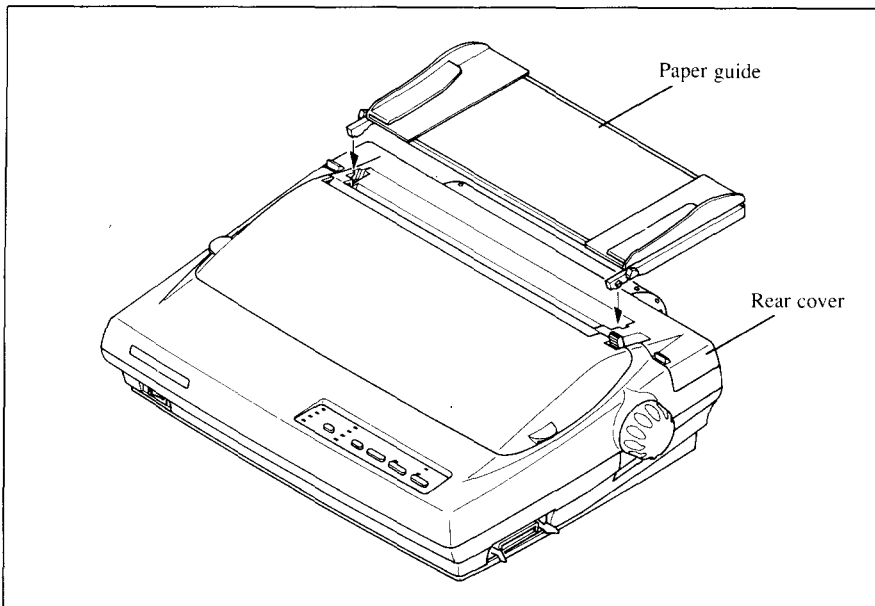

Figure 1-14. Mounting the paper guide for fanfold forms
13. Replace the rear cover, and mount the paper guide in the horizontal position shown in Figure 1-14, so that it will separate the printed from the unprinted paper.